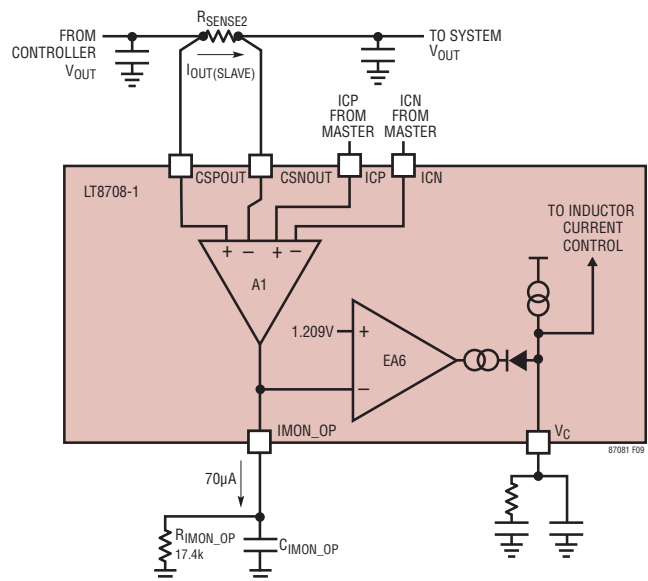

Figure 10.  $I_{OUT(SLAVE)}$  Current Regulation and Monitor
Figure 10 shows the primary LT8708-1 circuits involved in the regulation of  $I_{OUT(SLAVE)}$ . Additional circuitry is shown in Figure 1.  $I_{OUT(SLAVE)}$  is regulated by a feedback loop with ICP and ICN setting the desired current. The feedback loop involves the following sections:
- Resistor  $R_{SENSE2}$  converts the  $I_{OUT(SLAVE)}$  current into a voltage that can be measured by amplifier A1. This voltage is denoted as  $V_{(CSPOUT-CSNOUT)S}$  in Figure 10.
$$I_{OUT(SLAVE)} = \frac{V_{(CSPOUT-CSNOUT)S}}{R_{SENSE2}} = \frac{40mV \text{ (from Figure 10)}}{10m\Omega} = 4A$$
$$I_{OUT(SLAVE)} = \frac{V_{(CSPOUT-CSNOUT)S}}{R_{SENSE2}} = \frac{-20mV \text{ (from Figure 10)}}{10m\Omega} = -2A$$